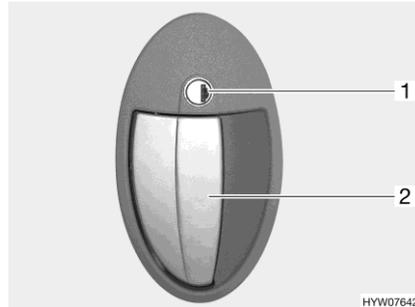

Fig. 36 Door lock (living area door, outside)
- Insert the key in the locking cylinder (Fig. 36,1) and turn it in a clockwise direction until the door lock is unlatched.
- Pull on the door handle (Fig. 36,2). The door is open.
- Insert the key in the locking cylinder (Fig. 36,1) and turn it in an anti-clockwise direction until the door lock is engaged.